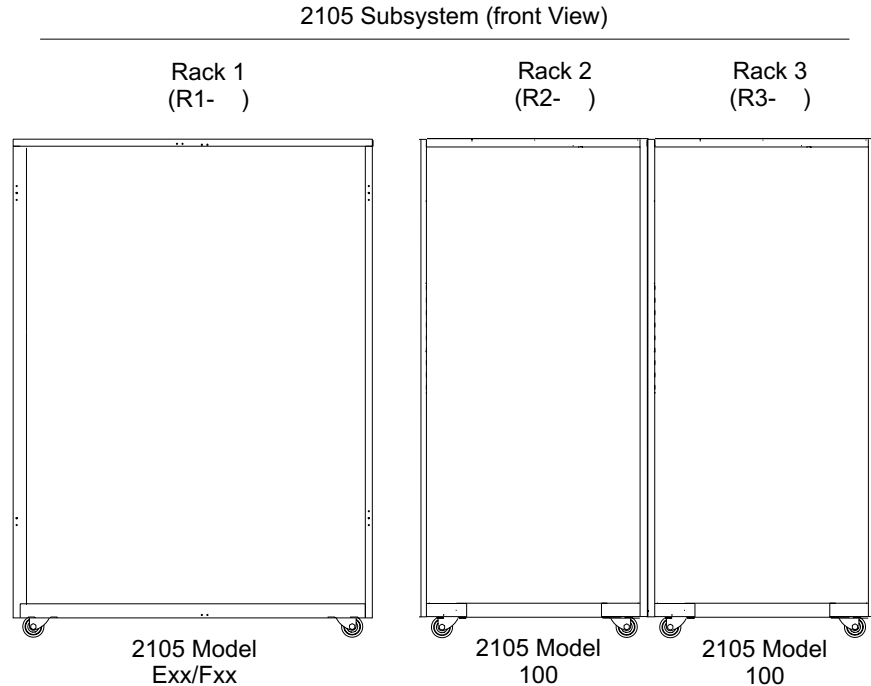

Figure 76. Suggested 2105 Rack Positions for 2105 Model 100s (s008856n)
- ___ 3. Position the 2105 Model 100 on the right side of the 2105 ESS subsystem. See Figure 76 on page 99. Move the 2105 Model 100 racks to their permanent locations with the cutout floor tiles beneath the front and rear tailgate area.